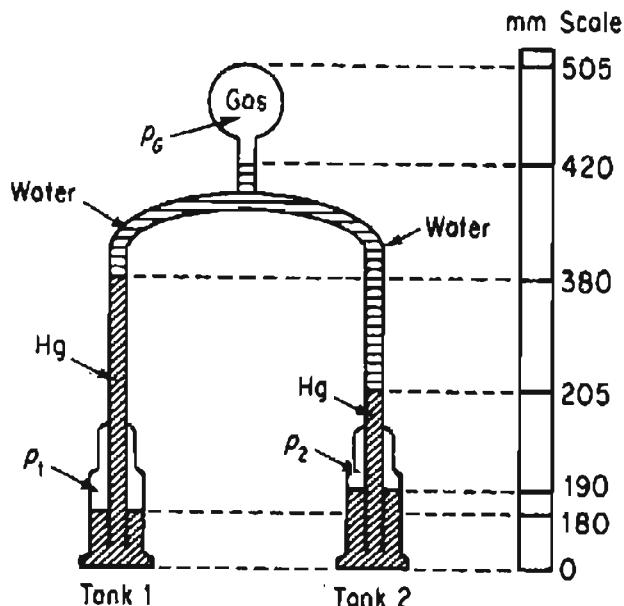

Figure P5.29
- *5.29 Pressure in a gas cell is measured with an inverted manometer, as shown in Figure P5.29. The scale on the far right-hand side of the figure shows the distances in mm (not to scale) of the interfaces of the liquids in the manometer. What is the pressure in the cell? $p_1 = 12.50 \text{ psia}$.